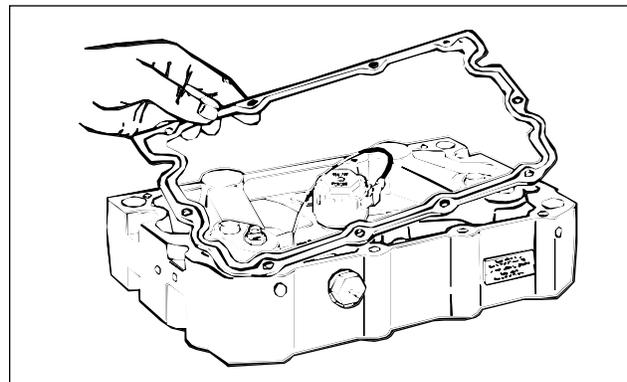

FIG. 12
4. Reinstall the Cummins rocker lever cover gaskets, making sure the word "top" is facing up (Fig. 12). Replace rocker covers and all previously removed parts. Torque rocker lever cover screws to 9 lb.-ft. (12 N•m).